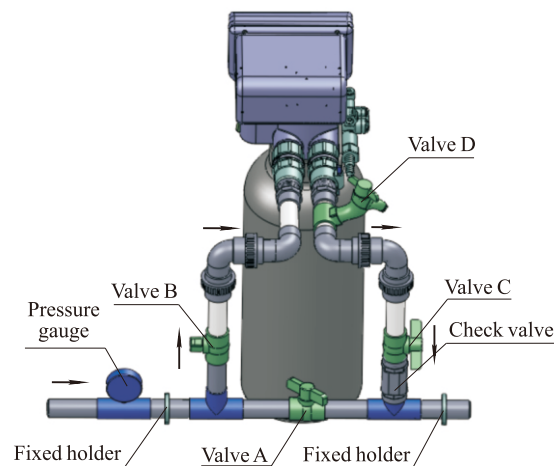

Figure 5
③ Install inlet and outlet pipeline
- As Figure 5 shows, install a pressure gauge in water inlet.